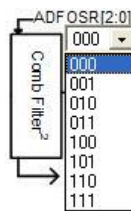

Figure 48
- Figure 48 will show up by clicking mouse left key, then users can select the network